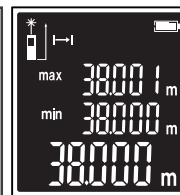

Fig. 8
- The current measurement value will be displayed on the screen. (Fig. 8)